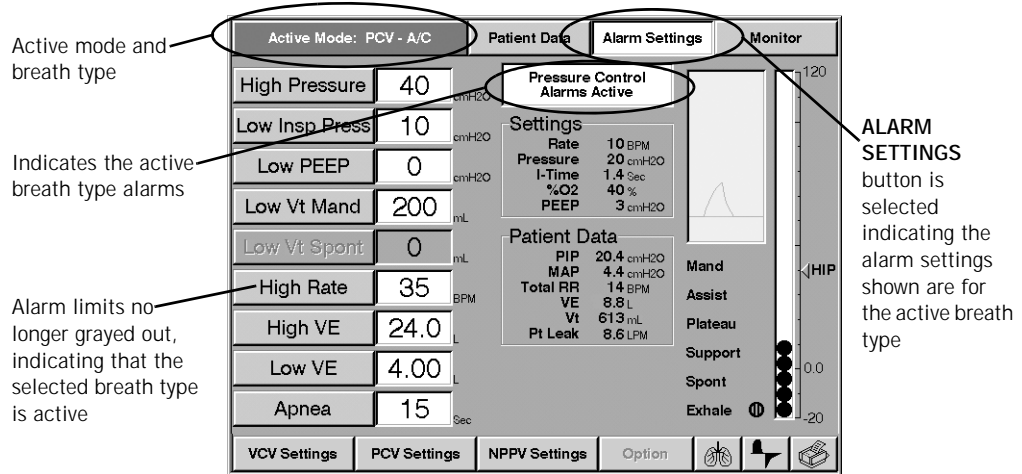

Figure 8-29: Alarm Limits Screen (PCV inactive)
6. If the operator reviews alarm settings and then activates the new breath type, the ventilator uses the new breath type and displays the alarm settings of the new breath type (Figure 8-29).